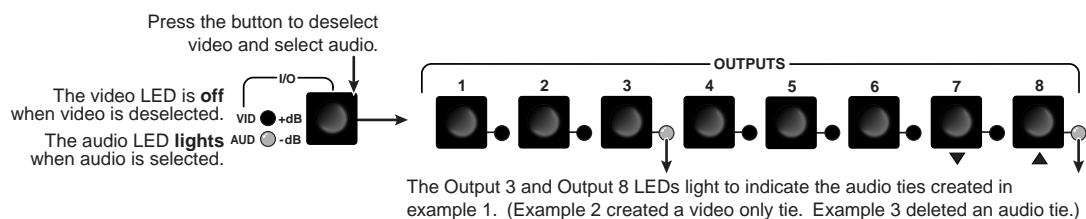

Figure 3-22 — Deselect video and select audio to view audio only
- Press and release the I/O button (figure 3-22).